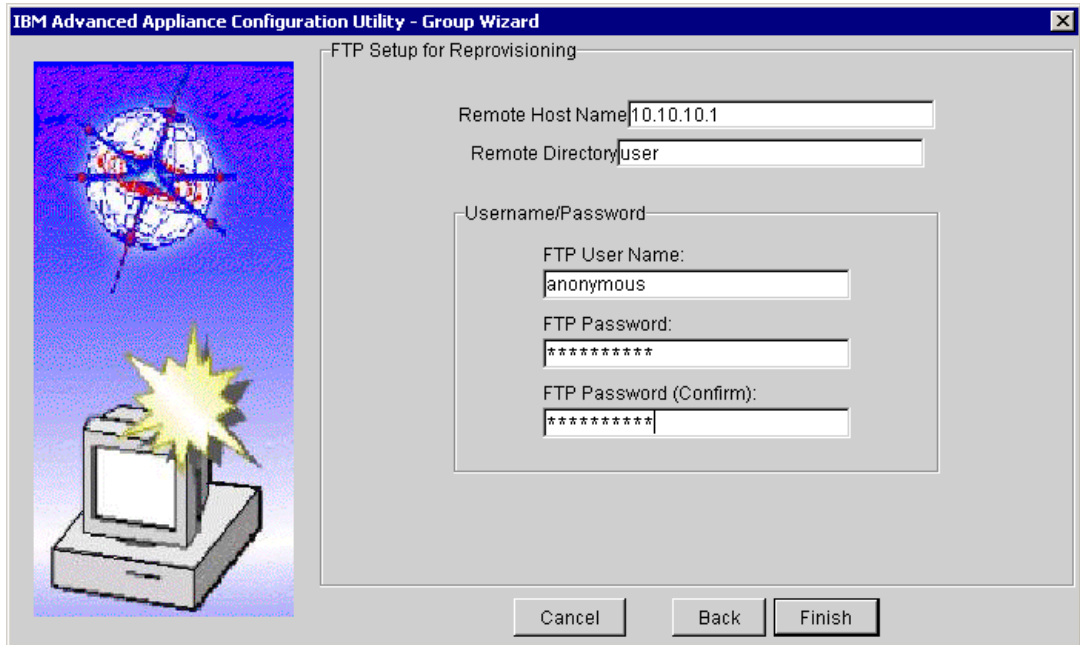

Figure 2-14 Group settings: FTP setup for reprovisioning
6. Select **Enable Reprovisioning** and click **Next**. The next window you'll see is the FTP setup for reprovisioning, as shown in Figure 2-14: